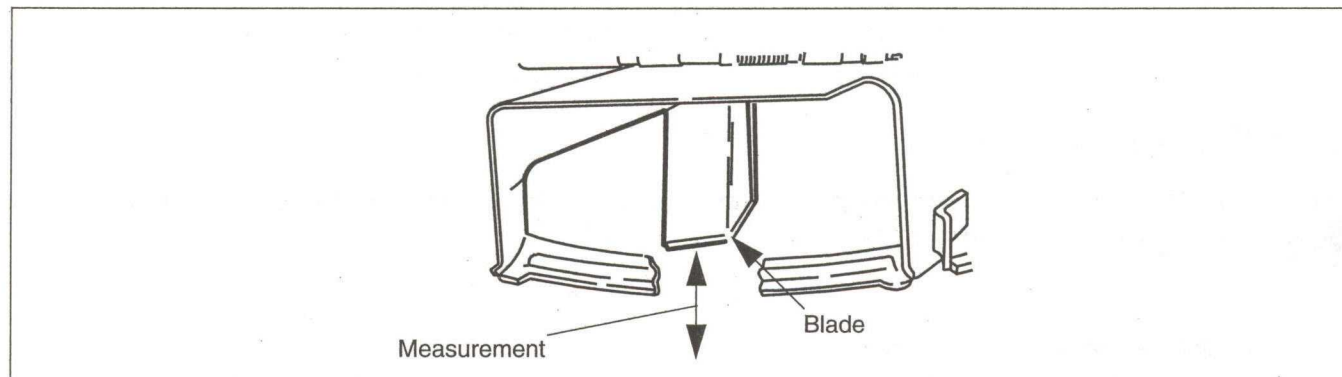

Figure 18
7. Raise the lift handle to the highest setting (7).
9. Measure and record the distance from the hard, level surface to the outermost edge of the right and left blade. (See Figure 18)